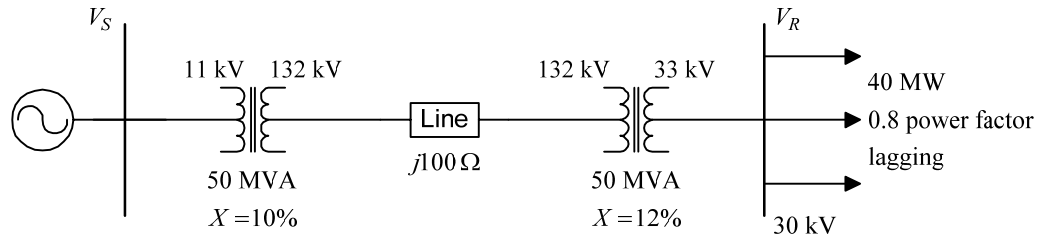

Figure 1: Power transmission system of Q.1(c).
1. (c) The one-line schematic diagram of a three-phase power transmission system is illustrated in Figure 1 below.